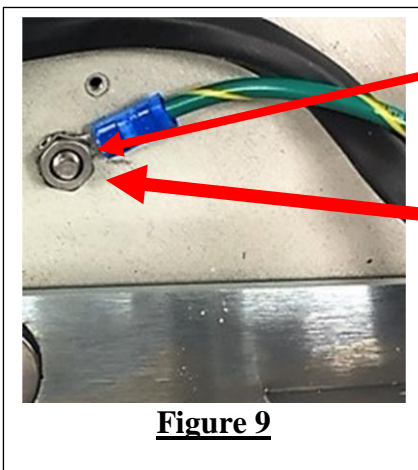

Figure 9
16. Install (and hold in place) the machine star-screw up through the hole from underneath the chassis (Figure 9).
17. Put a star washer over the screw so the star washer lays flush with chassis floor, (this is necessary for good ground connection (Figure 9).
19. Then finally install a star-nut and tighten for a firm connection to complete the ground connection. (Figure 9)).